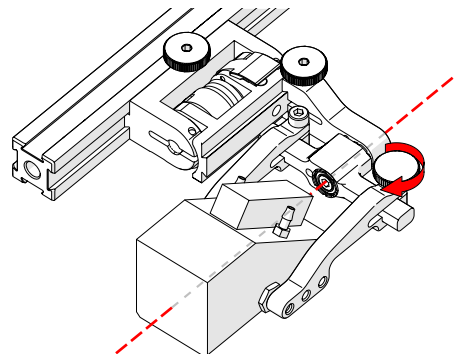

Fig. 120 - Pinch wedge with arm
9. Tighten probe holder arm adjustment knob (Fig. 120).